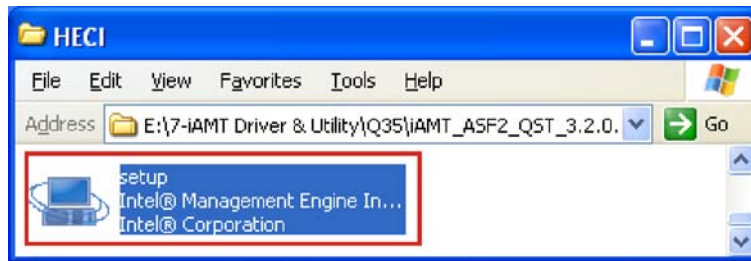

Figure 7-33: AMT HECI Driver Directory
Step 2: Browse to the "**HECI**" folder (**Figure 7-33**).